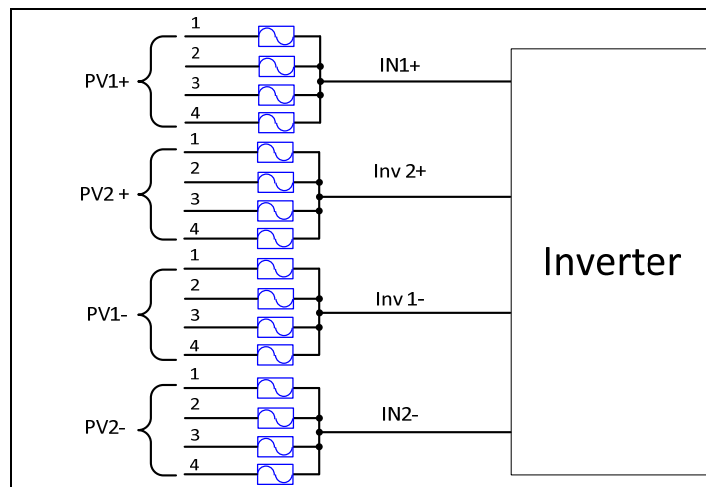

Figure 5.4 – Two MPPTs Operating Independently
3. Use a #2 Philips head screwdriver and remove the busbar that connects INV 1 + & INV 2+ at the top (see Figure 5.4 below).